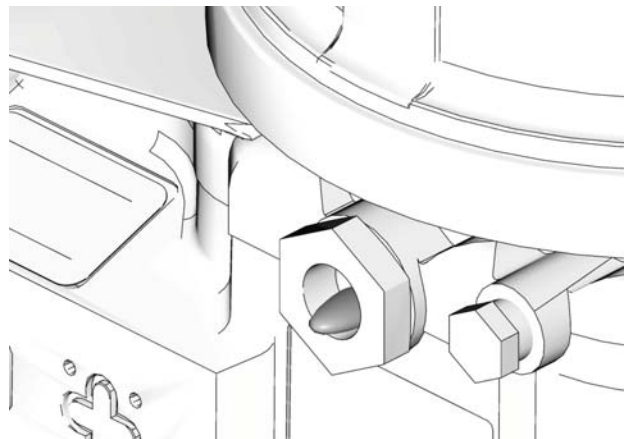

FIG. 9
2. Only run pump until air is no longer dispensed with the grease coming out of element fitting (FIG. 9).